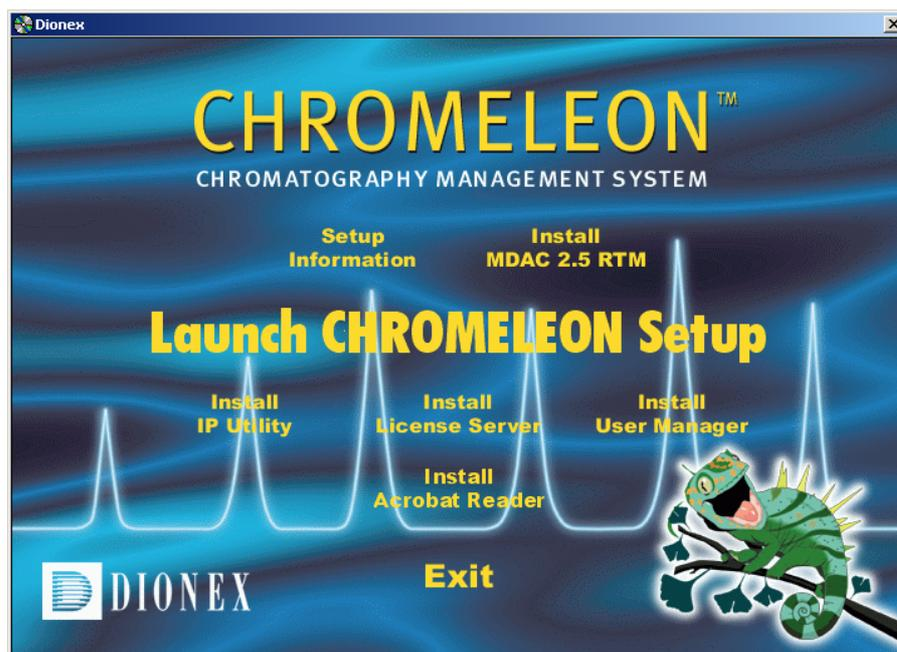

FIGURE 2-10 The CHROMELEON Setup Window
If the computer is configured for Autorun, the first installation screen will be presented (FIGURE 2-10).
- e) Double click on the **Launch CHROMELEON setup** to initialize the installation program (FIGURE 2-10).